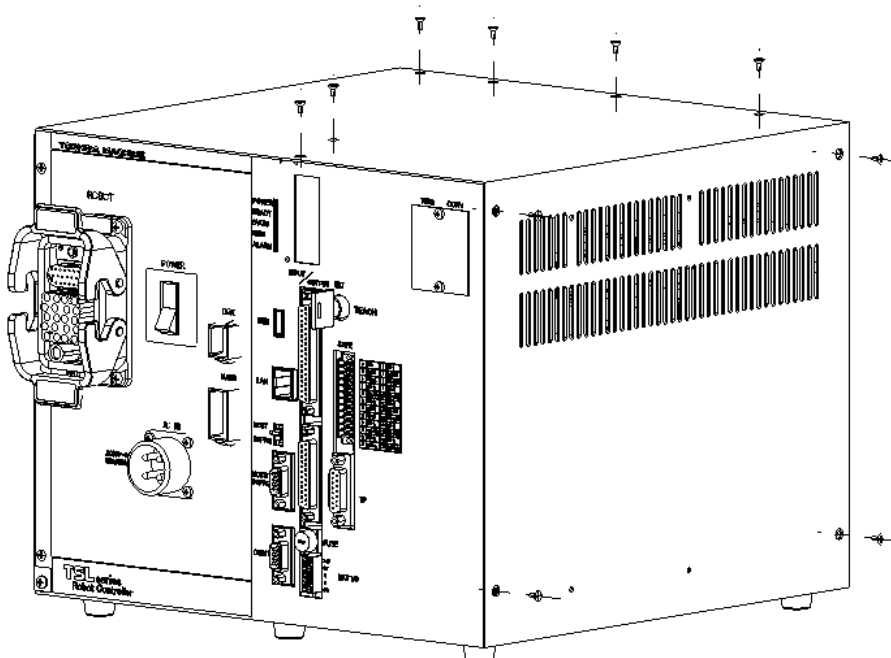

Fig. 11.4 Removing upper cover (TSL3000E)
- b) To do maintenance of the controller, do it with the upper cover removed. (See Fig. 11.4.)